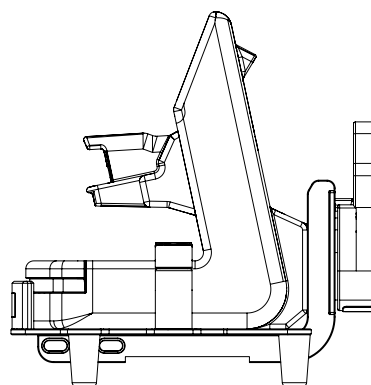

Figure 14: Installing the support bracket with a back anti-rotation micro disc in the Micro Base
1. Align and insert the micro disc horizontally (Figure 13) or anti-rotation micro disc vertically (Figure 14) in the micro base, paying close attention not to wedge the tubing of the medical device.